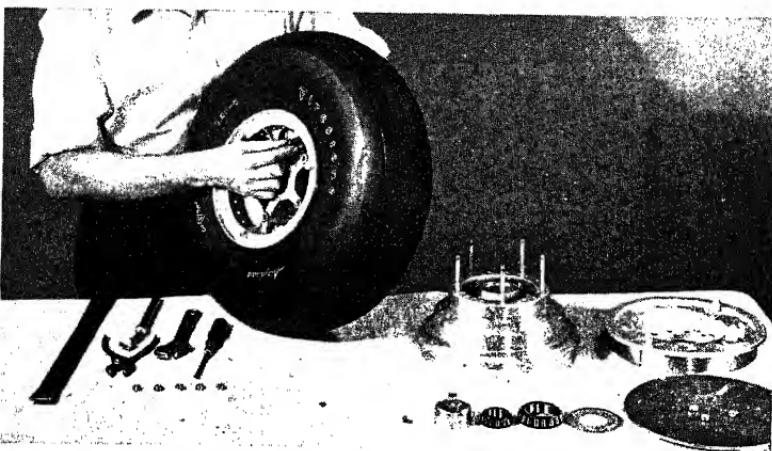

FIG. 17.—Pushing the outboard part of the wheel toward the valve ste.
4. Push the outboard part of the wheel toward the valve stem so that the stem enters the valve hole and emerges on the face of the wheel part. Screw the valve nut on the end of the valve stem (see Fig. 17).